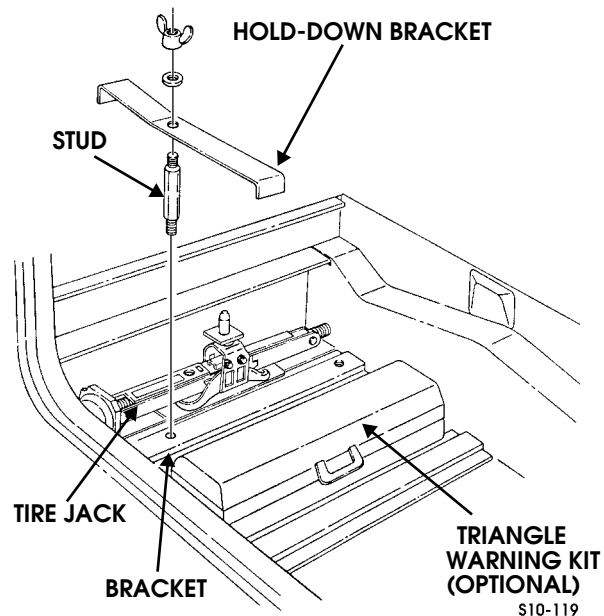

Figure 10-128: Emergency Equipment Hold-Down Bracket - Two-Passenger Vehicle
1. Remove two wingnuts, washers, and hold-down brackets (Figure 10-128).
1. Place tire jack and triangle warning kit in place (Figure 10-128).